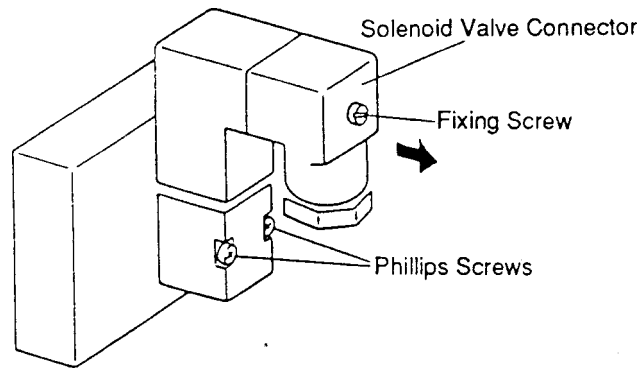

Figure 6-2-9 Removing Solenoid Valve
1. Loosen the Fixing screw of the Solenoid Valve Connector. Then Pull the Connector out as arrow mark in Figure 6-2-9.